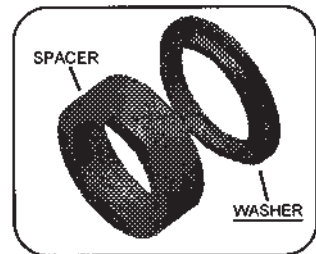

Figure 1
The enclosed locker contains two small washers in addition to the normal Lock Right parts described in the installation manual. They must be used with your locker whether you have a c-clip or a non c-clip differential. If you have a non c-clip differential, then simply assemble the washers onto the spacers using grease to keep them together, and follow the instructions in the installation guide treating the washer/spacer assembly as one piece (Figure 1). If the locker is being installed in a c-clip differential, follow the directions below in addition to the installation guide:
5. Assemble the other washer onto the spacer using grease to keep them together, and continue with the instructions in the manual treating the washer/spacer as one piece (Figure 1).